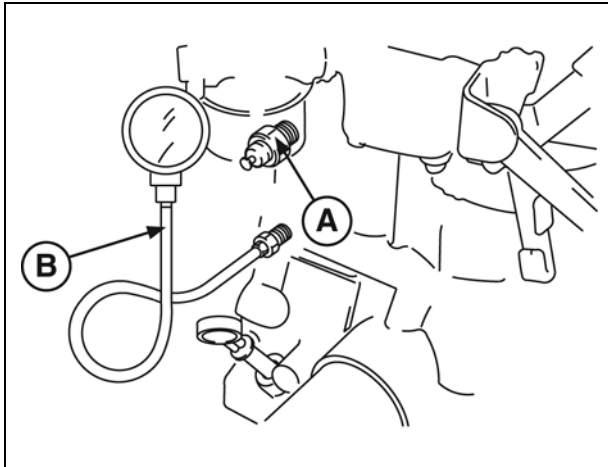

Figure 5
- Remove oil pressure switch (**A**, Figure 5).